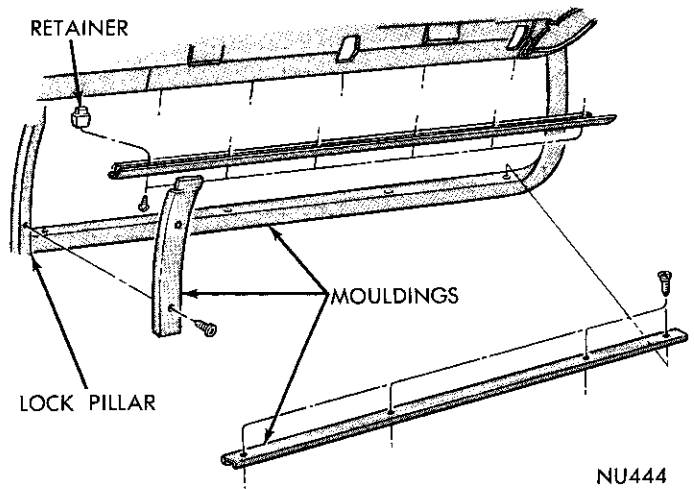

Fig. 79—Quarter Window Garnish Mouldings
- (2) Remove garnish mouldings at quarter window (Fig. 79).
- (3) Unlock weatherstrip by inserting a fiber stick into locking groove of weatherstrip and forcing locking tab out of groove.
- (4) Remove glass from weatherstrip from inside of vehicle and weatherstrip from fence.